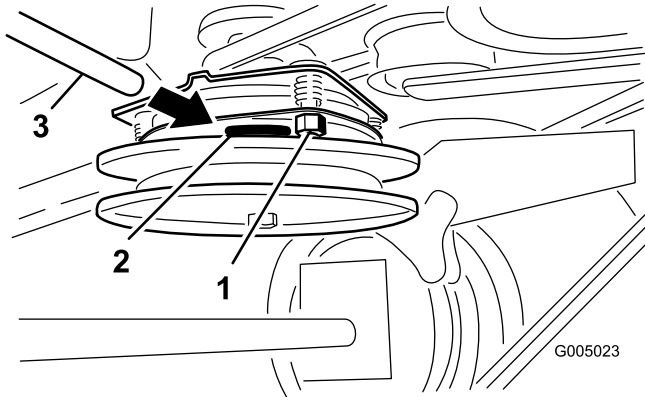

Figure 43
2. Tighten the lock nuts until there is slight binding on the feeler gauge but it can be moved easily within the air gap (Figure 43).